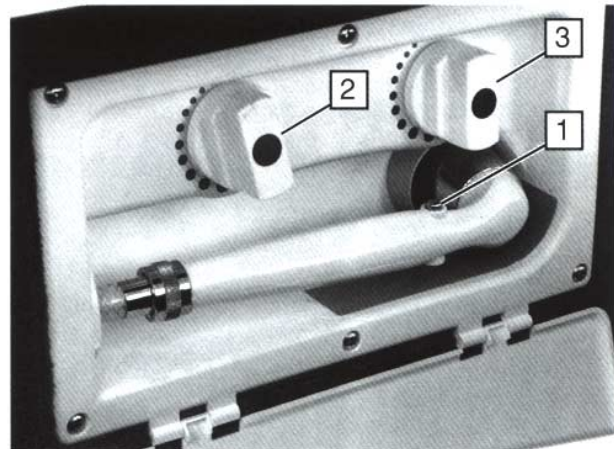

Figure 8-3
the inlet (cool) and outlet (hot) sides of the cooling system. To operate the shower, the engine must be running and the dash switch activated. A shut-off valve (item 1, Figure 8-3) on handle will switch the pump On and OFF. Use the red (hot, 2) and blue (cold, 3) knobs to control water temperature.